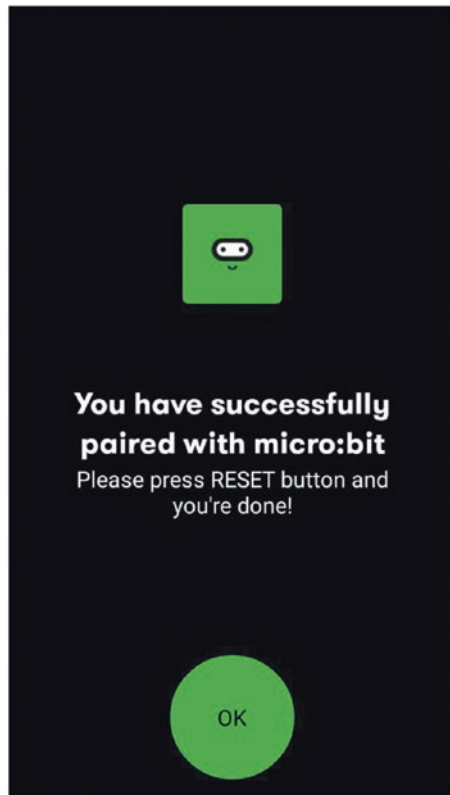

Figure B-6. Message saying you have successfully paired with micro:bit
10. If you entered the same key, you will get the message shown in Figure B-6.